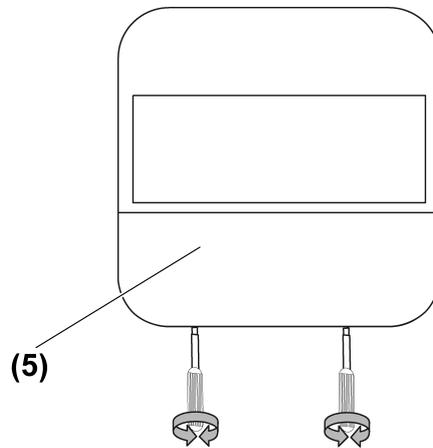

Figure 15: Dismounting of slide switch
- Remove the cover from the slide switch (5) (Figure 15).